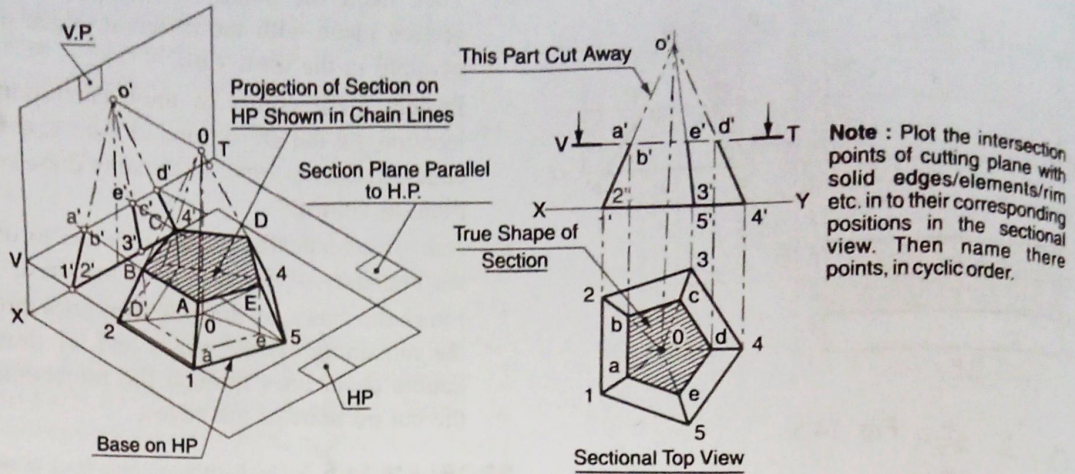

Fig. 14.1.
Figure 14.1 shows a right regular pentagonal pyramid cut by a section plane perpendicular to VP and parallel to HP. The plane has only VT and has no HT. As the section plane is parallel to the HP, projection of the section on the HP is true shape and size. Its projection on the VP is a line and it coincides with the VT of the plane. The pictorial view illustrates the theory of projection of sectional views.
**SOLUTION:** Refer Fig. 14.1.